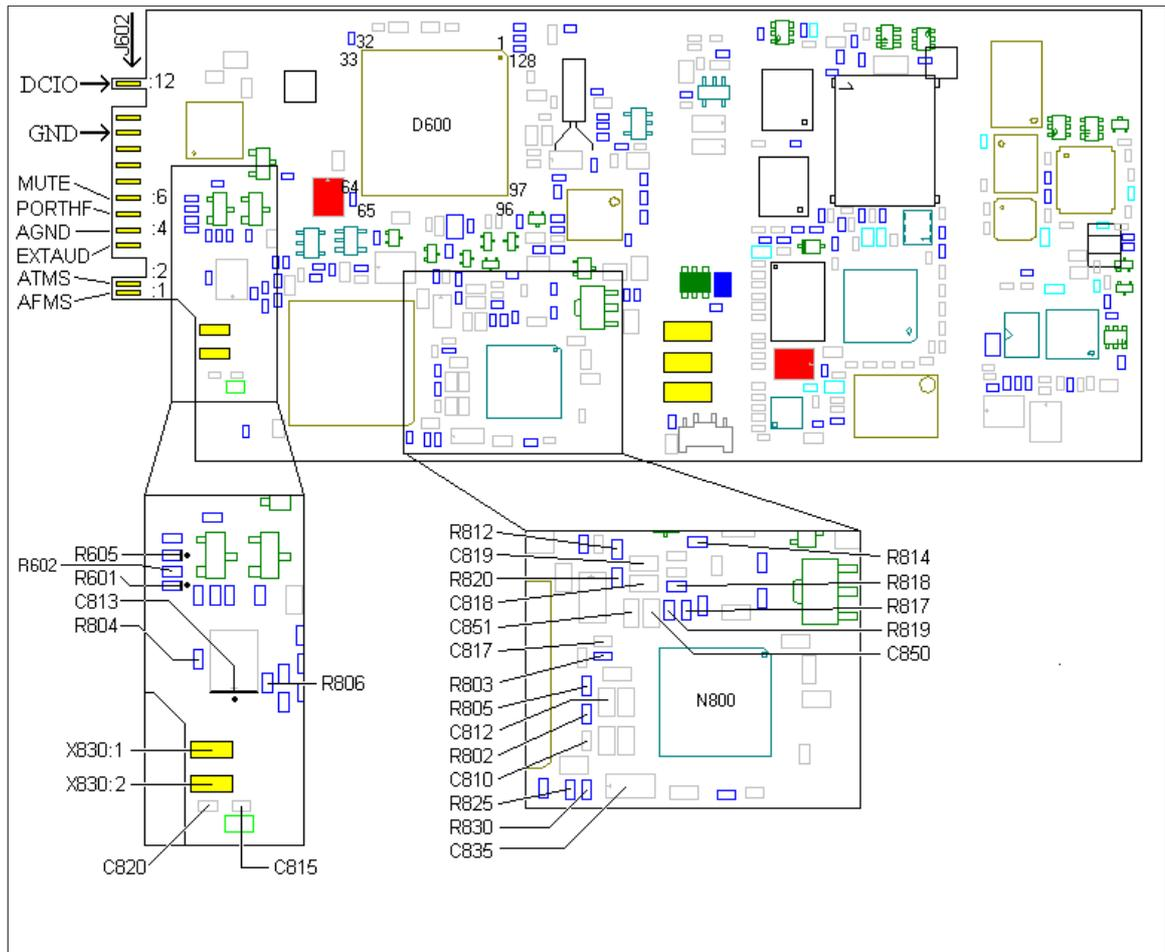
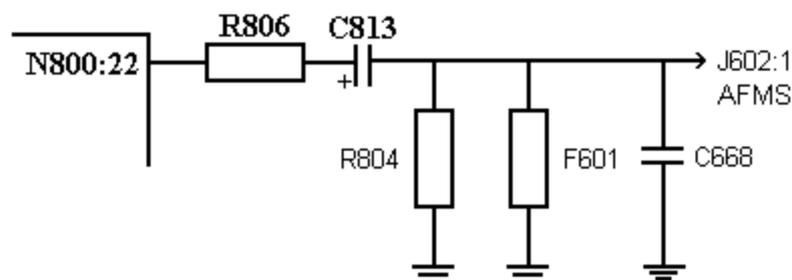
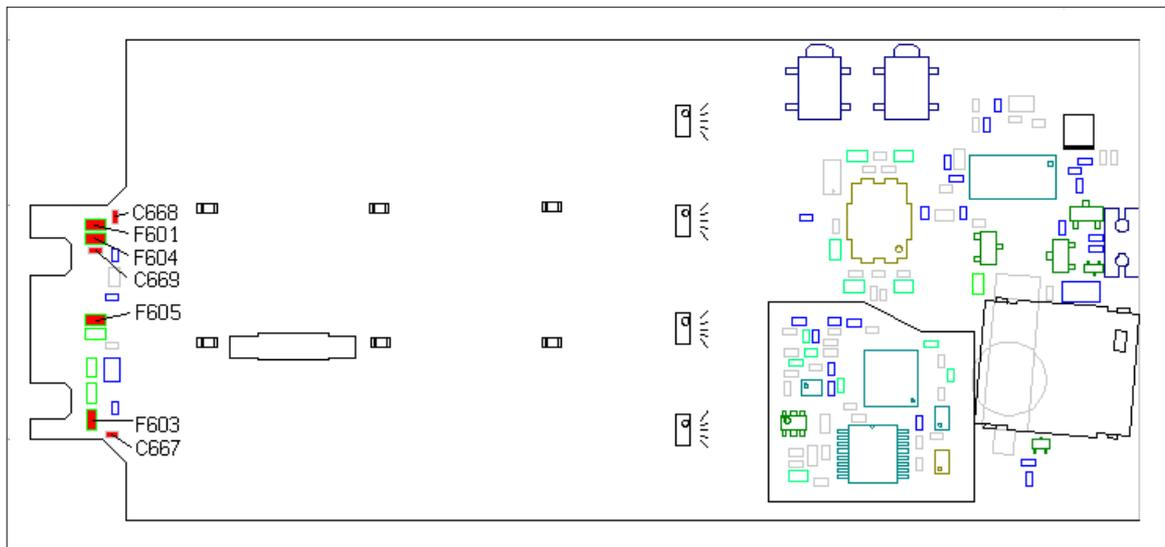

Fig. 4.2
Fig. 4.6
Fig. 4.7
Check the solderings of N800 (fig. 4.2)
Make sure C815 and C820 (both of class A, fig. 4.2) are mounted at the circuit board. They easily fall off when removing the system connector.
Measure the resistance of C850 and C851 (fig. 4.2, both of class A and >100 kohms).
Measure the resistance of R817, R814 (both of class A and ~1 kohms, fig. 4.2) and R818 (19 kohms, class A, fig. 4.2).
Check the solderings at pins 13-17 of N800 (fig. 4.2).
If the fault really is electrical and the above mentioned components aren't faulty, replace C818 and C819 (class A, fig. 4.2).
Measure the resistance from one of the X830 pads to the other (~28 kohms, fig.4.2).
- If the resistance is incorrect, replace C815 (class A, fig. 4.2).
Measure the resistance from pad 1 of X830 to ground (fig. 4.2, ~27 kohms).
- If the resistance is incorrect, measure the resistances of R812 and R814 (~470 ohms, class A, fig. 4.2).
* If the resistance is correct, measure the resistance from pad 1 of X830 to pin 13 of N800 (<1 kohms, fig. 4.2).
Measure the resistance from pad 2 of X830 to ground (fig. 4.2, ~470 ohms).
- If the resistance is too low, replace C820 (class A, fig. 4.2).
- If the resistance is too high, replace R820 (~470 ohms, class A, fig. 4.2).
Measure the voltage at both sides of R601 and at pin 70 of D600 (~3.1V, fig. 4.2, you follow the **PHFI** signal).
Measure the voltage at both sides of R605 and at pin 67 of D600 (~3.1V, fig. 4.2, you follow the **EXTAUDI** signal).
- If the voltage at R601 or R605 (both of class A) is too low only at one side (the marked side), remove the resistor and measure the resistance from the marked side to ground (fig. 4.2, >2 Mohms).
- * If the resistance is too low there's a short circuit in either the circuit board or in D600. Replace D600 (class B, fig. 4.2).
- If the voltage is too low at both sides of R601 or R605, measure the resistances of R635 and R636 (~22 kohms, class A, fig. 4.2).
- If the voltage is correct, check the solderings at N800 and D600 (fig. 4.2).
- If the resistance is too low (short circuit at ATMS), replace F604 and C669 (both of class A, fig. 4.7).
Measure the resistance of C850 and C851 (both are >100 kohms, in fig. 4.2 and of class 2).
Make sure R830, C835, R825, C810, R802, R805 C812 and R803 (class A, fig. 4.2) are mounted at the circuit board.
Check the solderings of N800 (fig. 4.2).
- If the voltage is incorrect, measure the VDIG voltage at the marked side of R830 (fig. 4.2, ~3.2V).
- * If the voltage is correct, check the resistances of R830 (~470 ohms, class A), R825 (~3.3 kohms, class A), C835 (>1 kohms, class A) and C810 (>5 kohms, class A, all four in fig. 4.2).
The fault occurs when there’s an interrupt in the audio path from the N800 to the handsfree speaker (connected through the system connector). The audio path is shown in fig. 4.6.
- If the resistance is less than 10 kohms, replace F601 and C668 (both of class A, fig. 4.7).
Measure the resistances of C850 and C851 (both are >100 kohms, in fig. 4.2 and of class A).
Make sure all the components in fig. 4.6 (R806, R804 and C813 in fig. 4.2 and F601 and C668 in fig. 4.7, all of class A) are mounted at the circuit board.